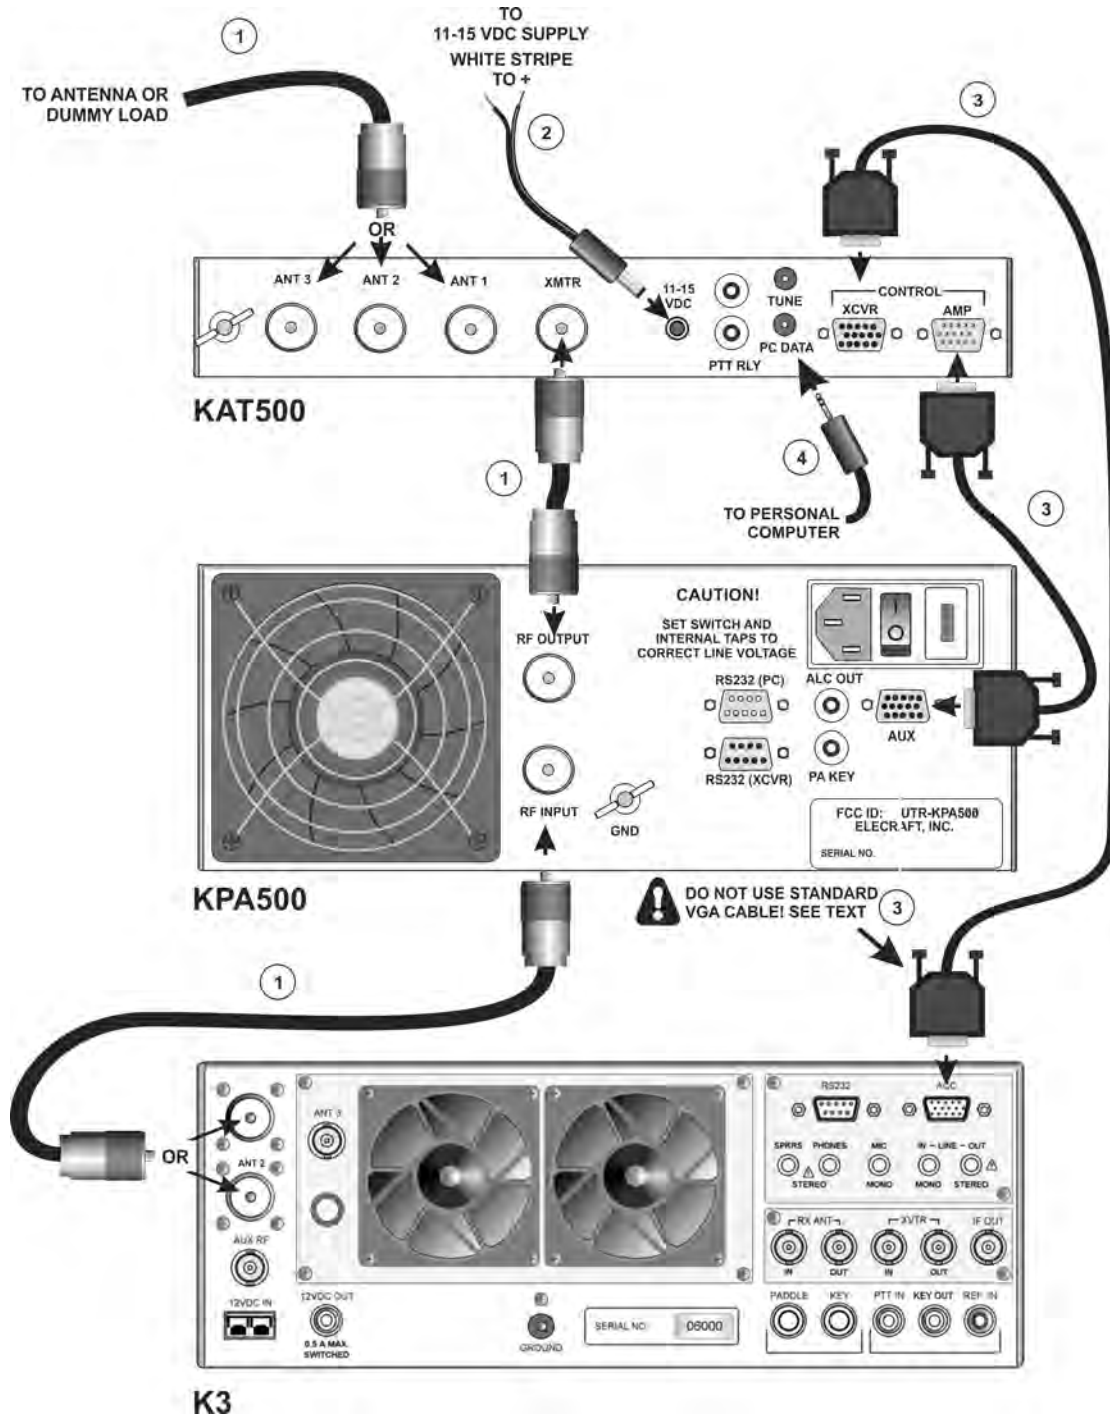
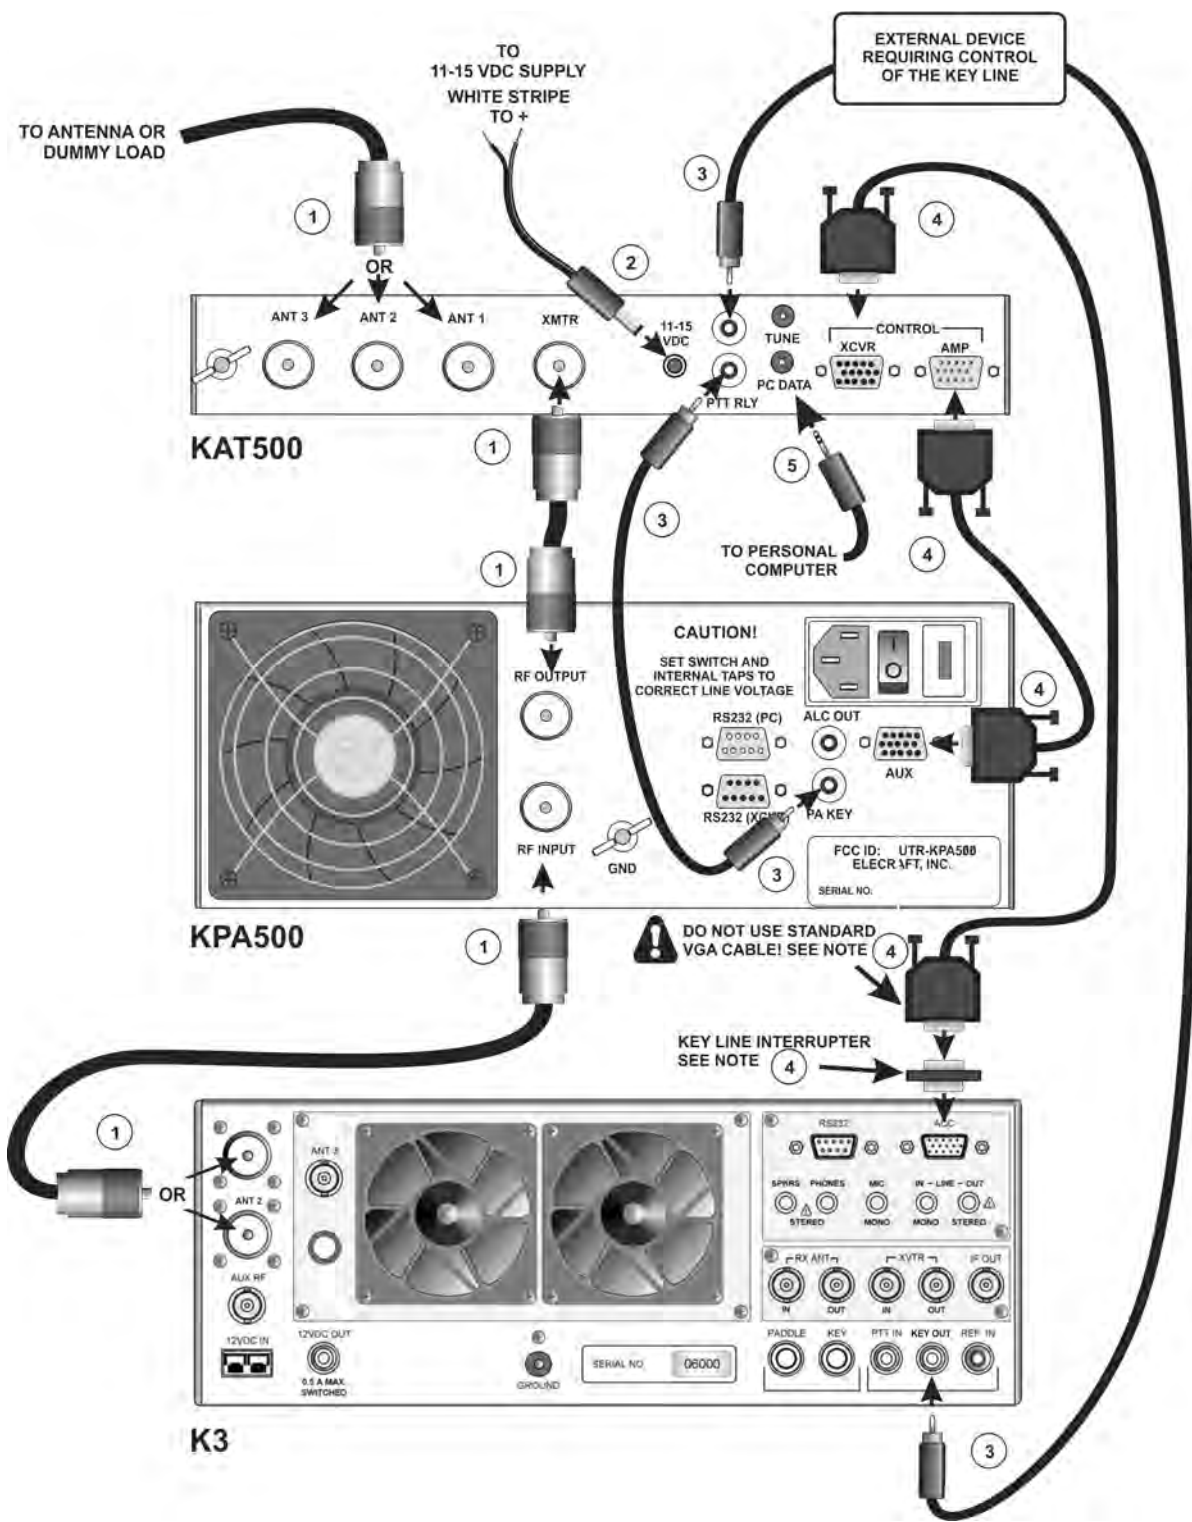

Figure 1. Cabling Diagram: Elecraft K3, KPA500 and KAT500 Using DB15 Interface Cables.
Figure 2. Cabling Diagram: Elecraft K3, KPA500 and KAT500 Using DB15 Interface Cables with Separate Key Line.
Refer to Figure 1 (page 4) and the following notes:
Refer to Figure 2 (page 6) and the following notes:
**NOTE:** If you have devices that need access to the PA Key line (e.g. SteppIR controllers, etc.), leave pin 10 open and use the external key line cable (see Figure 2, cable ③). If you purchased the KPAK3AUX cable set which includes the DB15 Interface Cable, a key line interrupter is provided that plugs in between the cable and the K3 to interrupt the pin 10 circuit without modifying your cable.
**⚠ IMPORTANT:** If you are using the KAT500 with an Elecraft K3 transceiver connected using DB15 cables as shown in Figure 1 or Figure 2, you must apply power to the KAT500 before turning the K3 on. If you turn the K3 on before applying power to the KAT500 the K3 will not be able to initialize correctly.
The KPA500 amplifier is designed to have the key line interrupted while producing full output without damage. The DB15 interface cable between the K3, KAT500 and KPA500 (Figure 1 cable (3) or Figure 2 cable (4)), ensures that the KPA500 amplifier and KAT500 change bands at the same time as the K3.